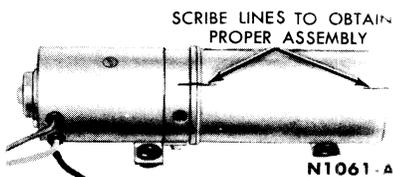

FIG. 22—Reservoir Marked Before Disassembly
that these parts can be assembled properly (Fig. 22).
5. Install a new seal on the center bolt, and install the reservoir and cover on the valve body, using the lines previously scribed as guides (Fig. 22). The cover must be mounted with the embossed lines in a vertical and horizontal position and the filler plug at 10 o'clock position.